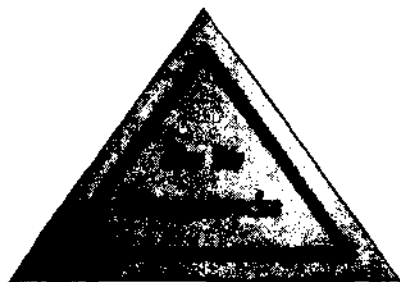

Figure 90.—"Only for practice purposes."
(2) *Examples.*—Set forth below (figs. 90 to 101, incl.) are some typical labels for small-arms ammunition.